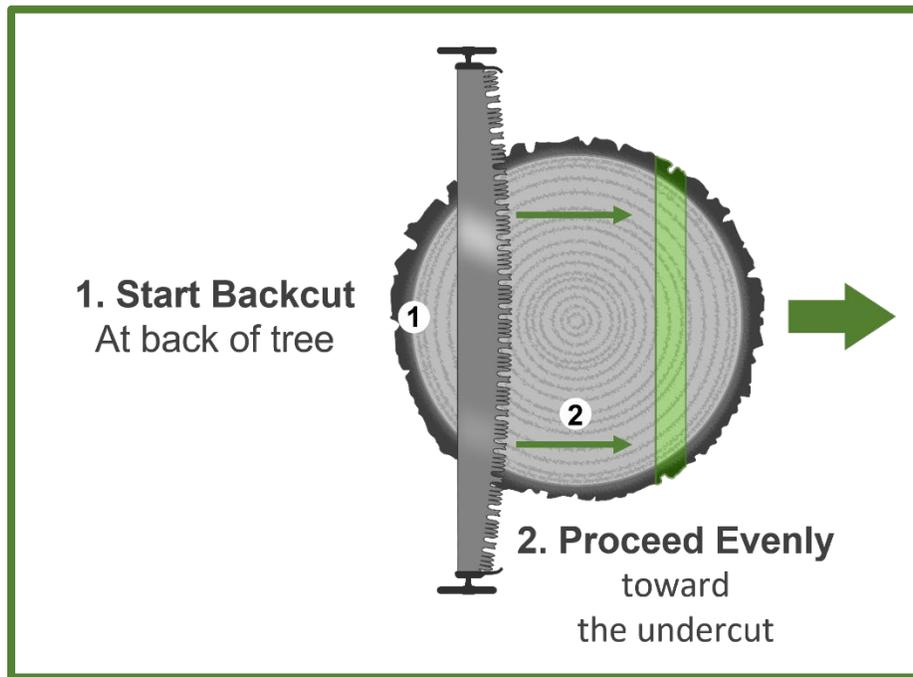

Figure 3.3.25—A conventional backcut.
- **Conventional backcut:** Start the backcut at the back of the tree and proceed evenly toward the undercut (figure 3.3.25). Make sure you construct the cut parallel to and slightly above the undercut's hinge to create the necessary stump shot for this method.